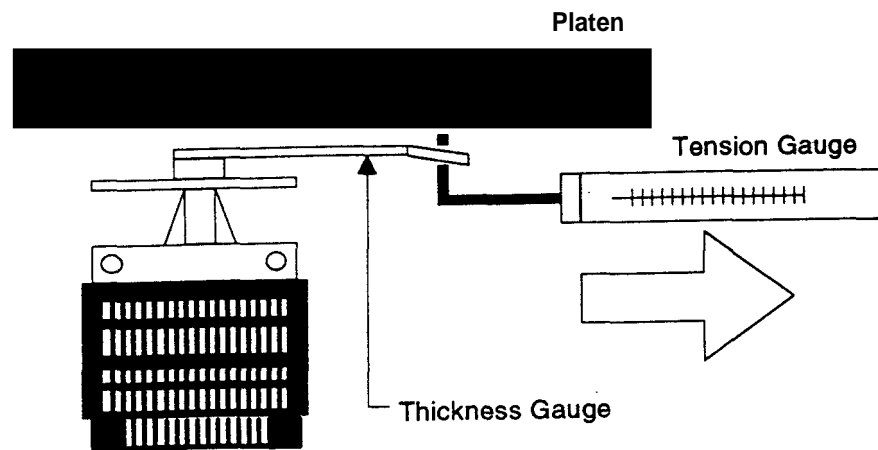

Figure 4-19. Pulling the Thickness Gauge
10. Hold the thickness gauge gradually with the **printhead** nose by pressing the MICRO FEED(A) switch. (At this time the value can be decreased by pressing the MICRO FEED(v) switch. )
11. Contact the tension gauge to the **hole** of the thickness gauge and **pull** it straight to the right. (Refer to Figure 4-19.)